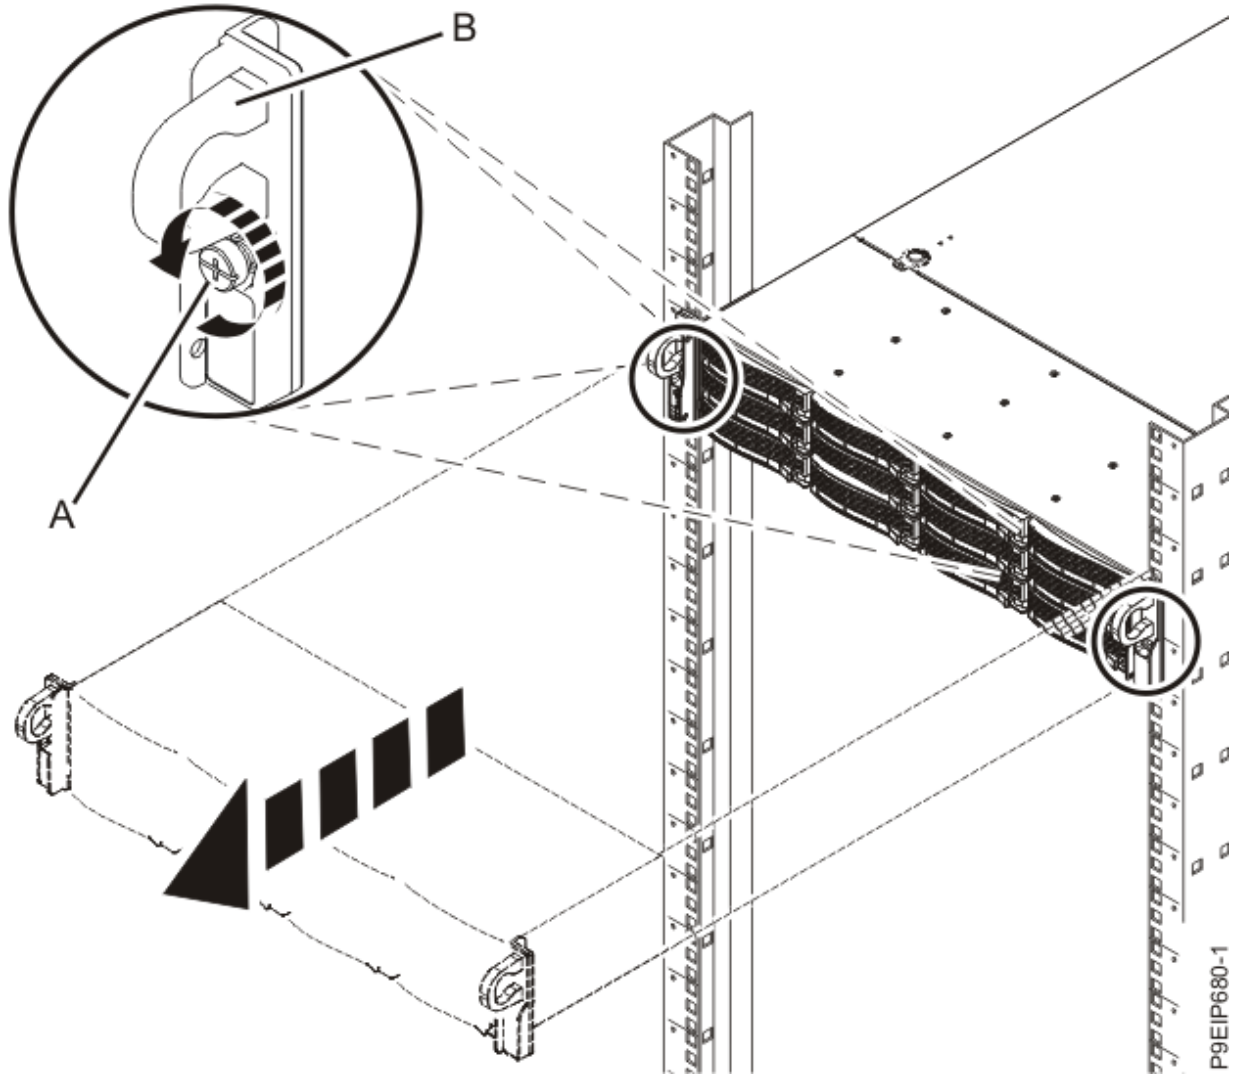

Figure 72. Removing the front screws and removing the system from the rack
1. Loosen the front screws (A) that secure the system to the rack from both sides of the system as shown in Figure 72 on page 90.